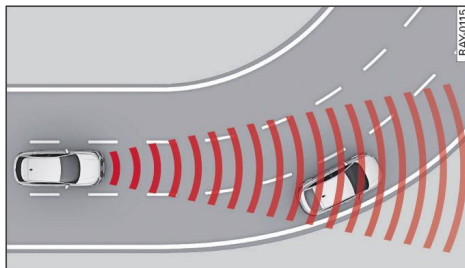

Fig. 104 Example: Driving into a bend
- If a vehicle ①, which has already been detected by the adaptive cruise assist, turns off or changes lane and another stationary vehicle ② is located in front of that vehicle, the system will not react to the stationary vehicle.
- When driving into a bend ⇒ *Fig. 104* and driving out of a bend, the system may react to a vehicle travelling in the next lane and therefore brake the vehicle. You can override this by accelerating briefly.